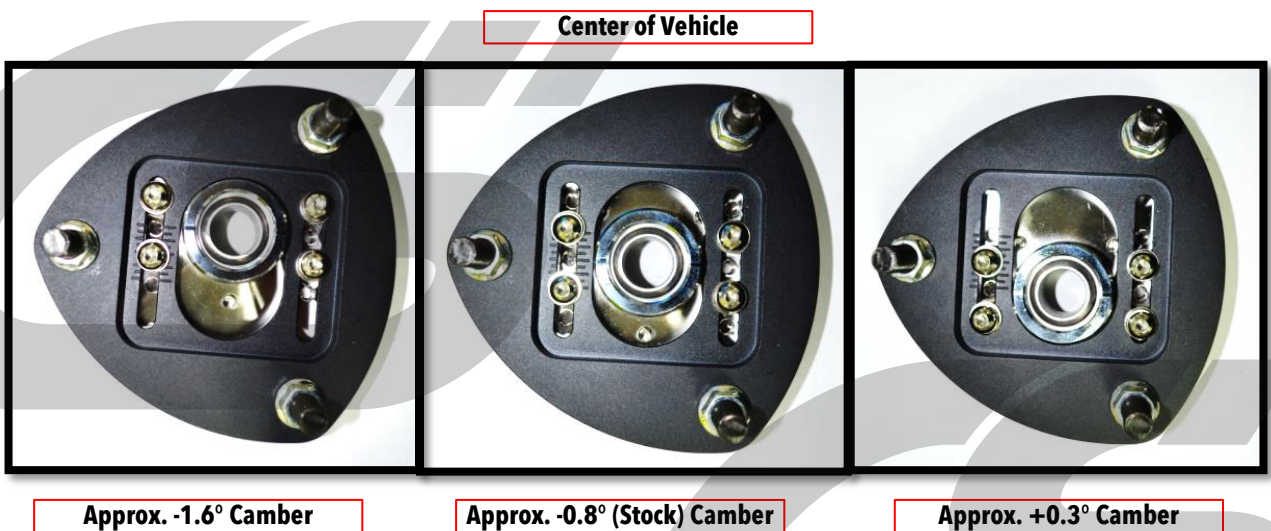

Figure 9a
- a) To adjust front camber, start by loosening the four socket head bolts at the top of the camber plate. These can be loosened using a 4mm Allen wrench/socket. Bolts shown in **Figure 9a**.
NOTE These bolts do not need to be removed unless you plan on maxing out the camber adjustment. If this is the case, see **Figure 9a** for our recommended bolt placement. Only remove and replace two bolts at a time to ensure the camber plate does not become misaligned.
- b) Slide the top of the coilover forward or backward to adjust your camber. The top of the coilover toward the center of the car allows for more negative camber, while the towards the outside of the car allows for more positive camber. **Figure 9a** shows approximate camber readings. These are not exact numbers as your car will have more negative camber the lower it is. Once happy with your camber setting, tighten the four Allen bolts to **12-15ft-lbs**.